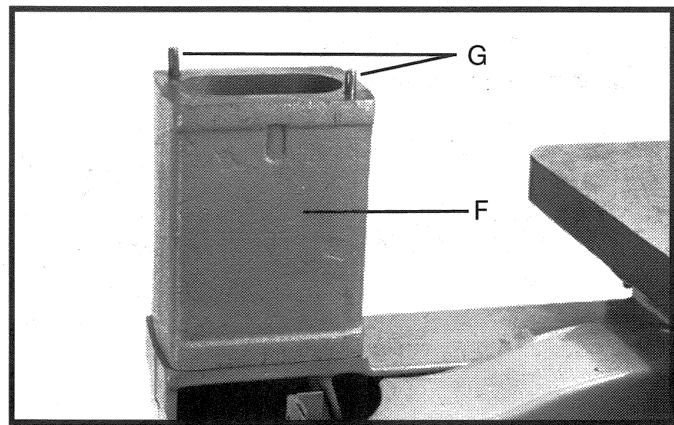
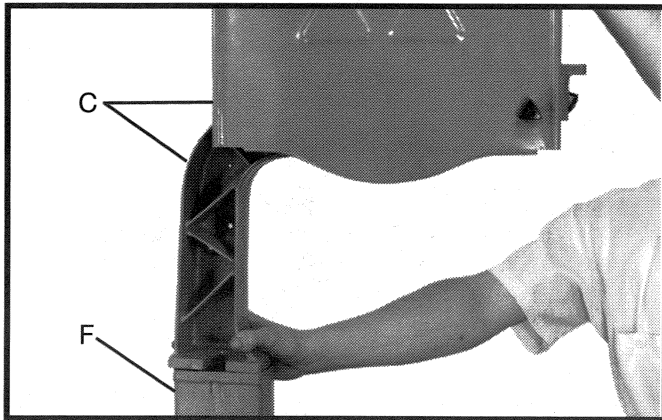

Fig. 5
Fig. 6
4. Insert the two roll pins (G), supplied with the height attachment, in the two holes on the top of the riser block (F) Fig. 5.
5. Carefully place the upper arm assembly (C) on the top of the riser block (F) Fig. 6. Check to see that the two holes in the bottom of the upper arm assembly are engaged with the two roll pins (G) Fig. 5.